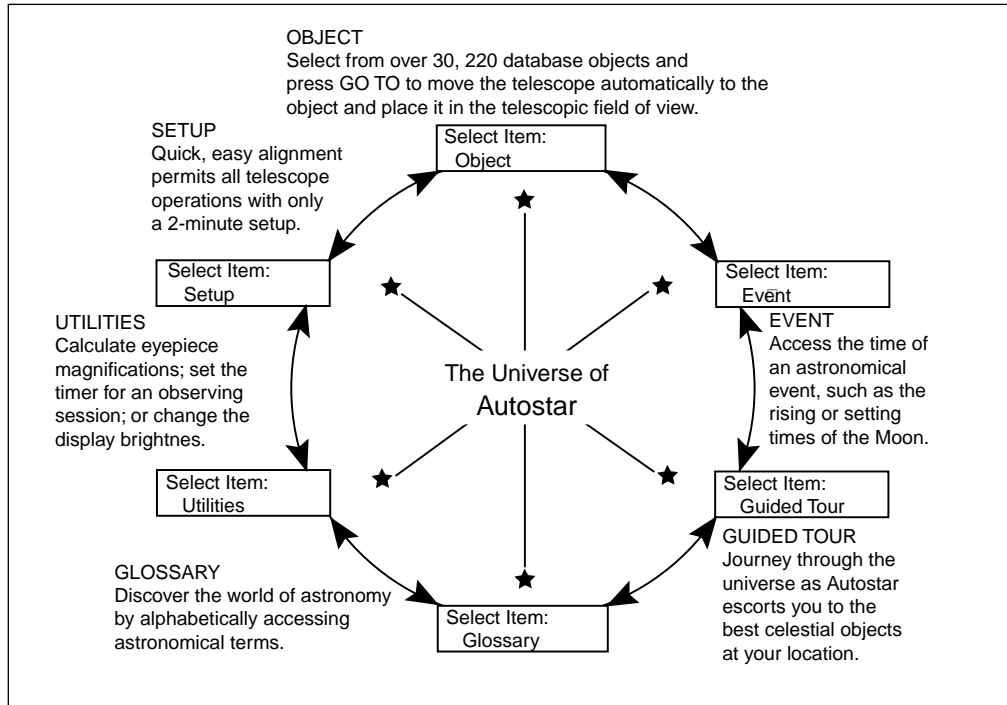

Fig. 9: The Autostar Universe: The six primary categories listed in the Select Item menu of Autostar.
It is important to understand that menu selections are set in a loop (Fig. 9). This means that pressing the Scroll Down key (7, Fig. 2) cycles down through all the available options within a given category, then returns to the first option. The Scroll Up key (7, Fig. 2) cycles up through the options in the opposite order. Note that this capability is a quick way to get to an option that is near the bottom of the list. The following example demonstrates this capability.